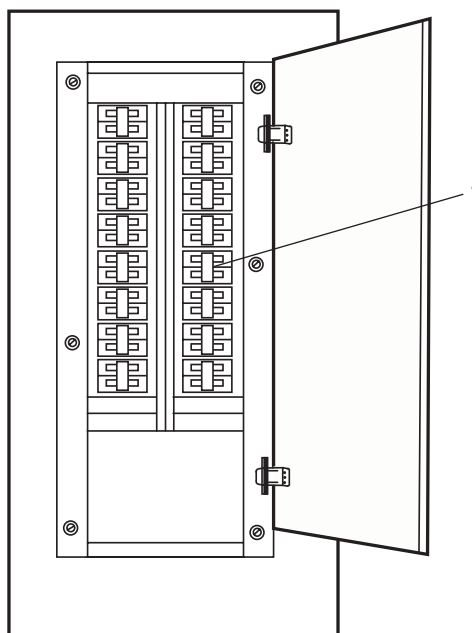

Figure 1. 120V Emergency Distribution Panel No. 1
1. At 120V emergency distribution panel No. 1, set the E.O.T. SYSTEM circuit breaker (figure 1, item 1) to ON.